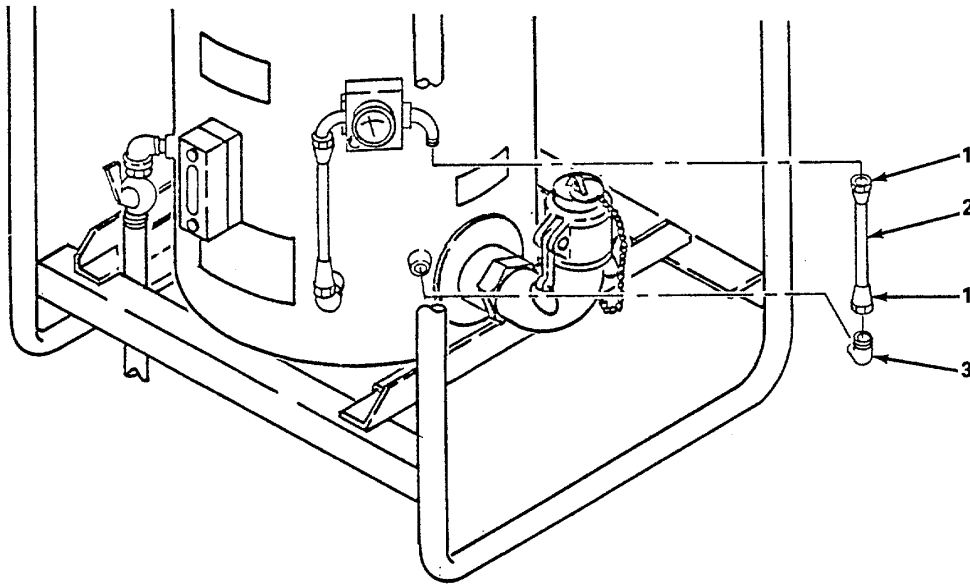

Figure 4-10. Tube Assembly, Replace.
- (1)      *Tube assembly.* (figure 4-10)
- (a) Loosen two coupling nuts (1) and remove tube assembly (2).
- (b) Remove elbow (3).
- (c) Apply sealing compound to threads on elbow (3).
- (d) Install elbow (3).
- (e) Install tube assembly (2) and tighten two coupling nuts (1).